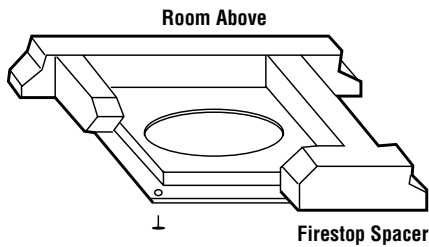

Figure 21
**Step 3.** Position appropriate firestop spacer at ceiling and nail temporarily with two (2) 8d nails. Use flat firestop spacer, Model F10FS-2, if chimney penetrates ceiling vertically. If chimney penetrates ceiling at 30° angle (offset chimney), use 30° firestop spacer, Model F10FS30-2. Use one nail on opposite sides to hold firestop spacer in position. Nail permanently, using at least two (2) more 8d nails, after chimney sections have been assembled through the firestop spacer and after any necessary adjustments have been made. Firestop spacer must be secured by at least four (4) 8d nails when completely installed.
**Note:** If there is a room above ceiling level, firestop spacer must be installed on the bottom side of the ceiling. If an attic is above ceiling level, firestop spacer must be installed on top side of ceiling joist (*Figures 21 and 22*).